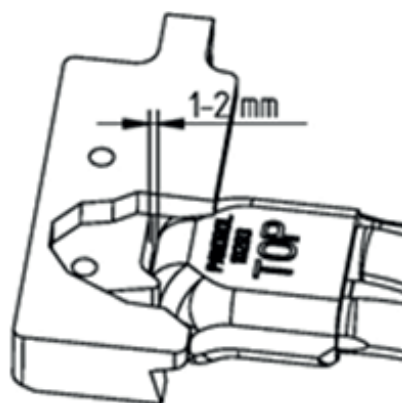

Fig 44.
4. Make sure there is a space of 1-2 mm between the clips and the claw when positioning the de-clipping pads for an optimal function ("Fig 44.").